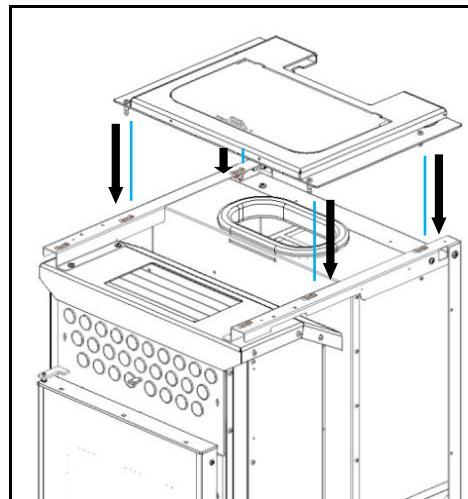

Figure 99 – Top cover placement
- b) Fit the front grille, matching the holes in the grille to the holes in the appliance (Figure 99).